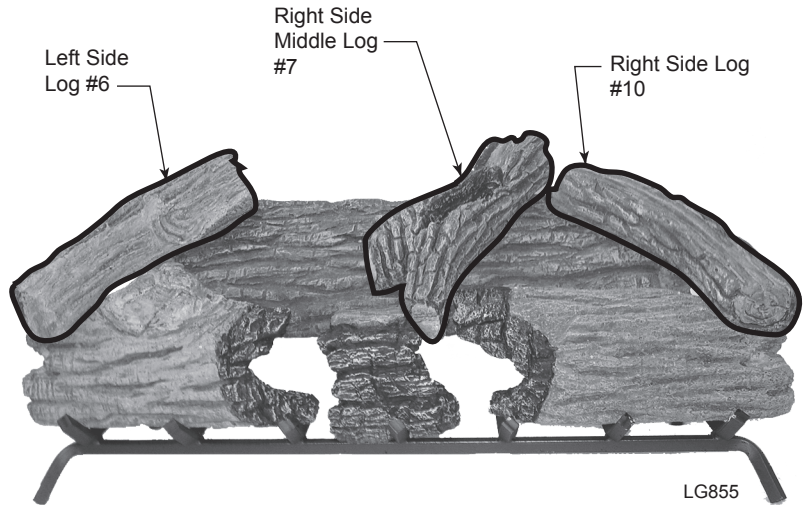

Figure 37 - Place Left & Right Side Logs and Right Side Middle Logs
- 6. Install left side log #6. *Figure 37*
- 7. Install right side middle log #7. *Figure 37*
- 8. Install right side log #10. *Figure 37*